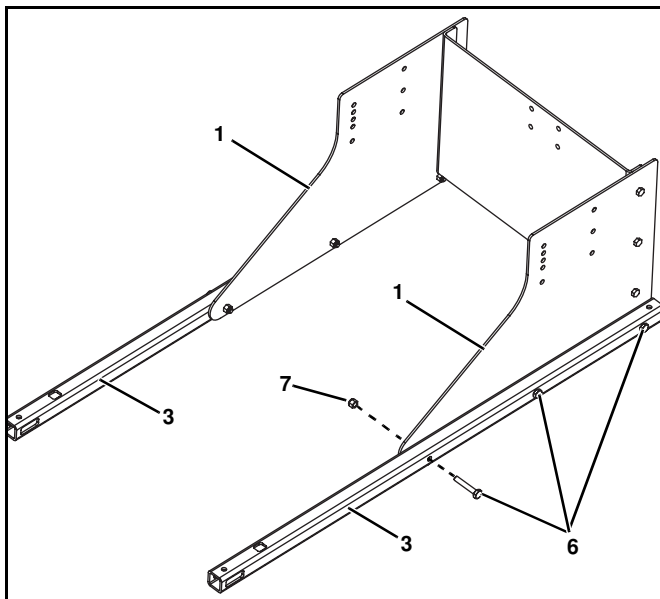

Figure 2
2. Use (3) 1/2"-13 x 3" cap screws (#6) and 1/2"-13 nylock nuts (#7) on each support tube (#3) to secure to the side plates (#1) (See Figure 2.). The bolts should point toward the inside.